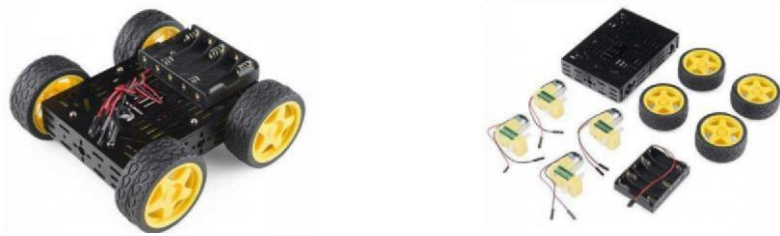

Figure 2 - Robot Platform
- An autonomous vehicle must be built using the platform in [this link](https://goo.gl/tqr9rh) (<https://goo.gl/tqr9rh>). The robot is shown in “Figure 2 - Robot Platform”